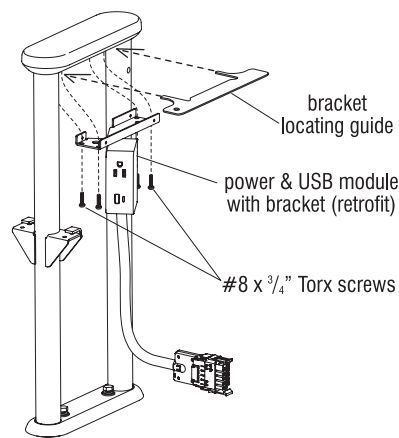

Figure 13
2. Follow the space-planning layout and position the correct number simplex receptacle box between the uprights, under the armcap. Use a bracket locating guide to center the receptacle box both front-to-back and side-to-side. Orient the **locator hole** in the guide to the **front** of the upright when centering. Using the 6" Torx bit supplied, secure the receptacle box to the upright with four #8 x 3/4" Torx screws (Figure 13).